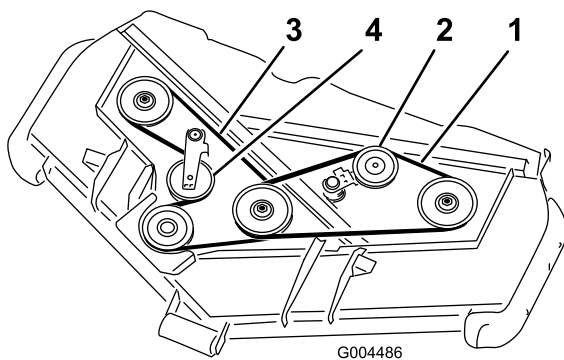

Figure 18
3. Using a breaker bar or similar tool, move the idler pulley for the top belt (Figure 18) away from the top drive belt to release the belt tension and allow the belt to be slipped off the pulleys.
4. Route a new belt around the gearbox pulley, bottom spindle pulleys, and idler pulley assembly as shown in Figure 18.
5. Route a new belt around the top spindle pulleys and idler pulley assembly as shown in Figure 18.